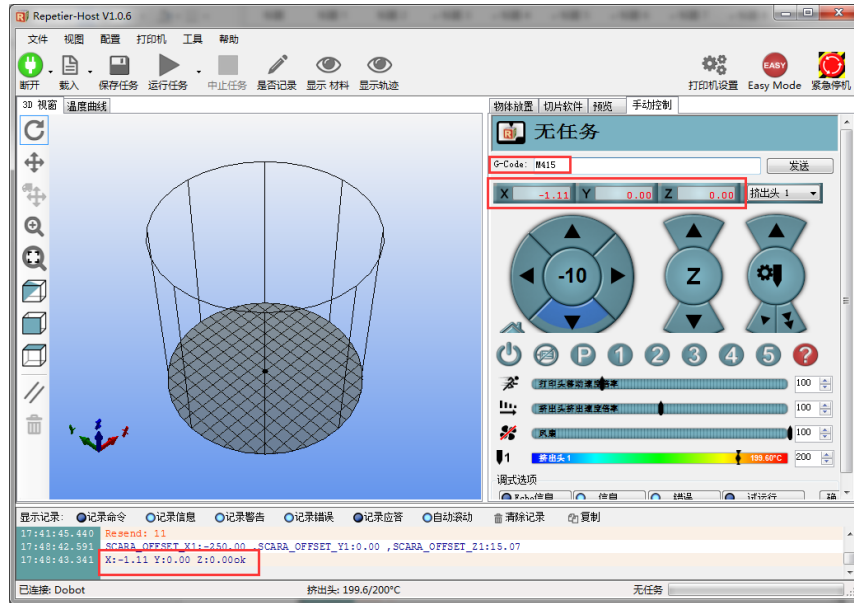

Figure 5.136 Input M415
2. Input command **M415** on the **G-Code** command window and press **Enter** to get the current coordinates, as shown in Figure 5.136.